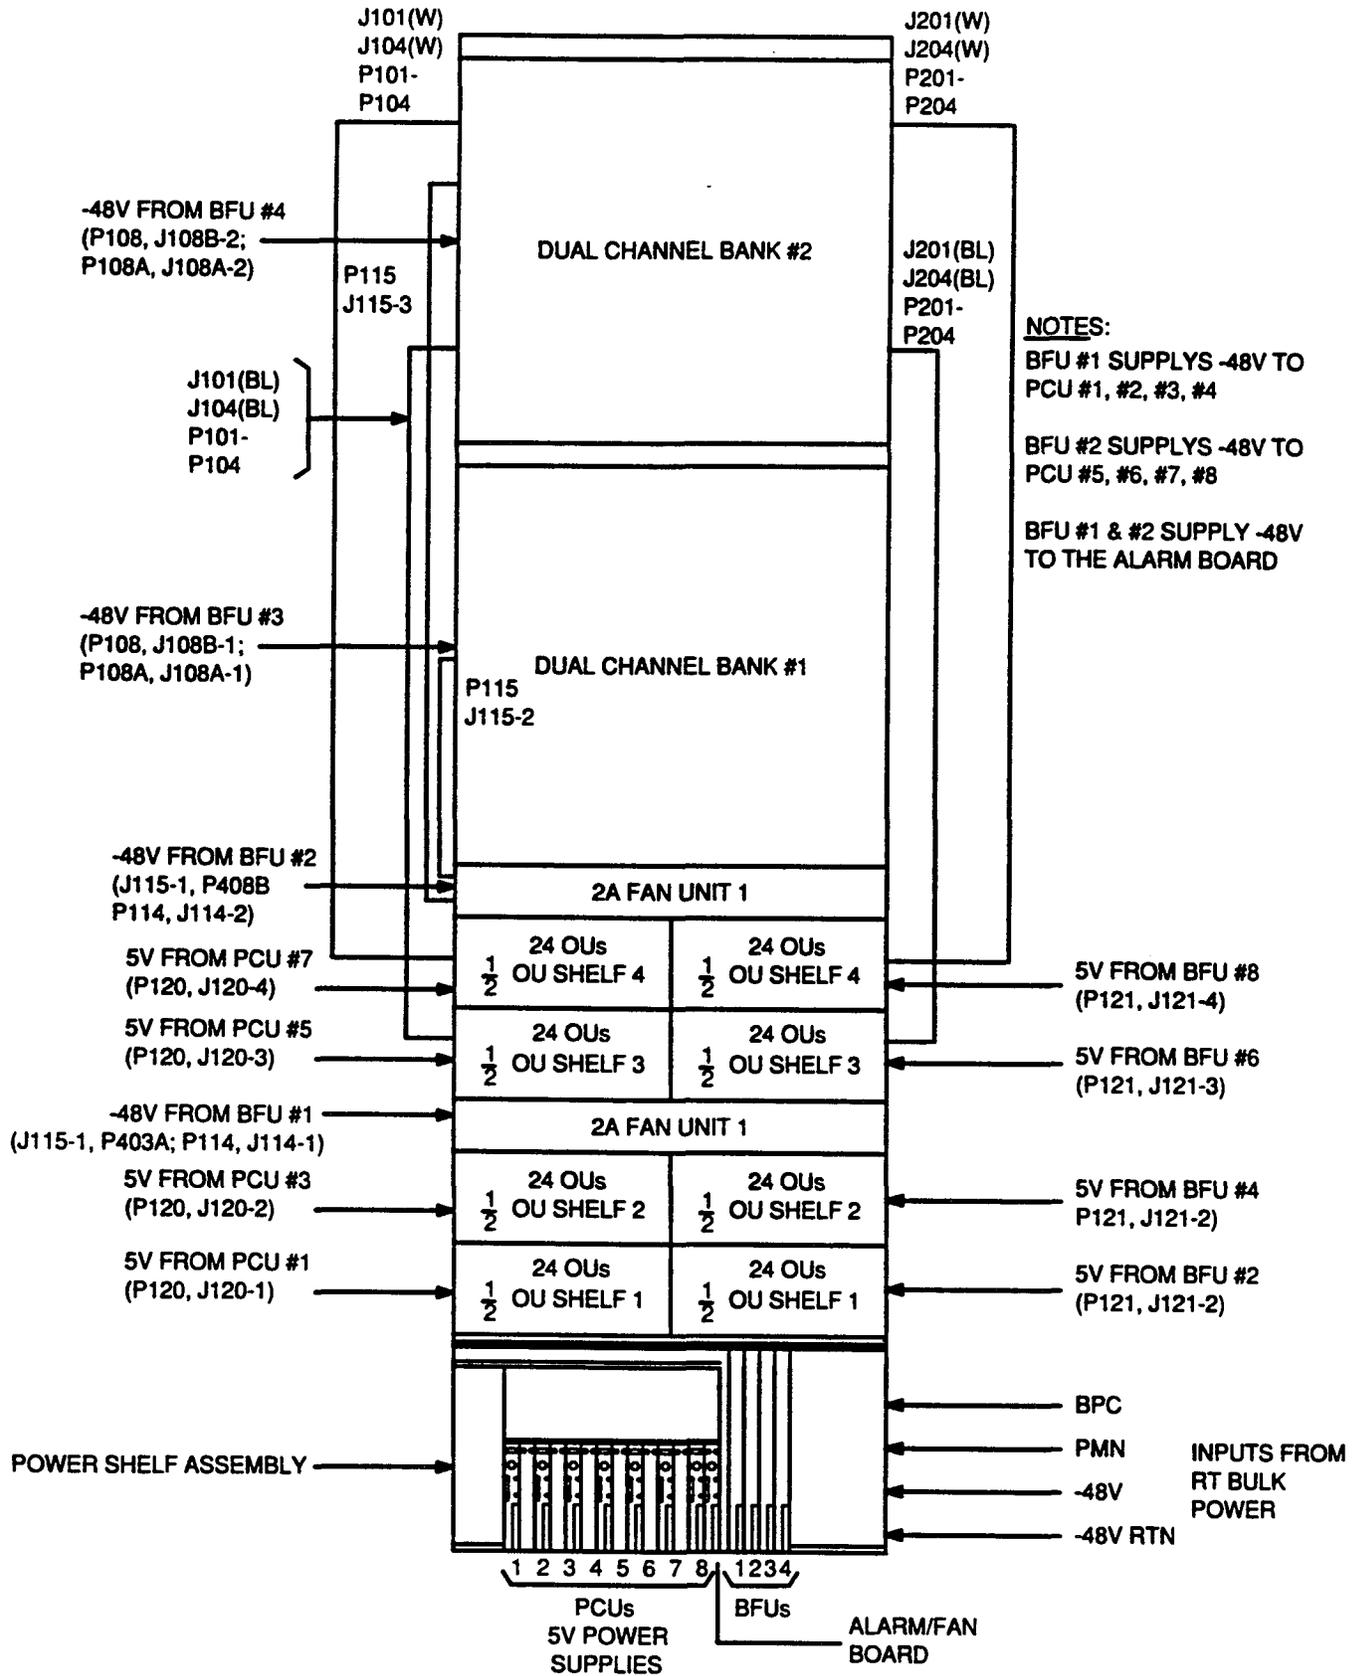
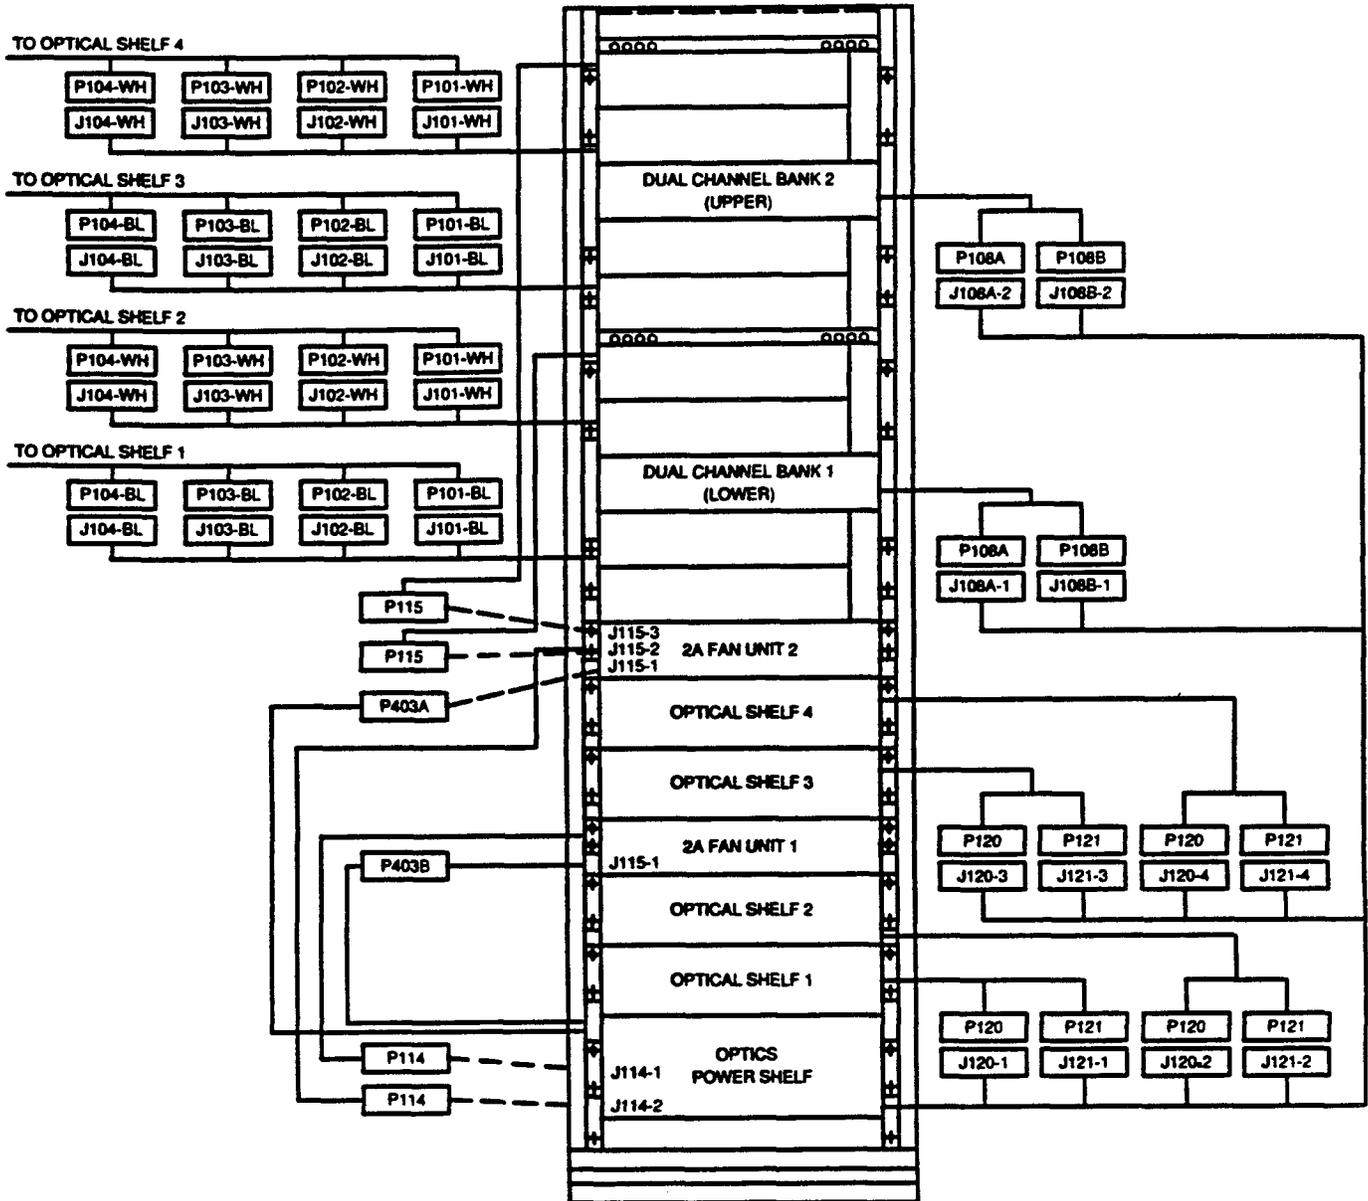

Figure 1—Fiber-To-The-Home 7-Foot Bay Arrangement
Figure 2—Fiber-To-The-Home 7-Foot Bay Cabling Connections
1. Use TABLE A to find RT and digroups of interest, then see FIG. 1 through 5 for more details about the individual equipment shelves.
3. See TABLE C and FIG. 2 for bay connections from the Power Shelf Assembly.
4. See Table D and FIG. 2 for intershelf cabling arrangements.
5. Figure 1 shows the Fiber-to-the-Home 7-foot frame equipment bay arrangement. Note that the connections between the dual channel bank 1 and optical shelves 1 and 2 are not shown, but are connected in a similar arrangement as the connections for the dual channel bank 2. Figure 2 shows all the required connections for the 7-foot Fiber-to-the-Home equipment frame. Each optical shelf serves one of the RT systems in the dual RT channel bank assembly.